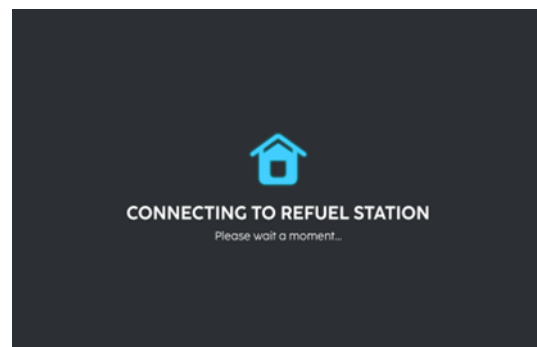

FIGURE 3-12
8. Install Refuel Station against a flat wall on a flat ground and follow the on-screen instructions. Push robot to face the Refuel Station and wait for robot to connect to Refuel Station. (Fig. 3-12). If it is taking too long to connect, try pushing the robot closer to the Refuel Station.